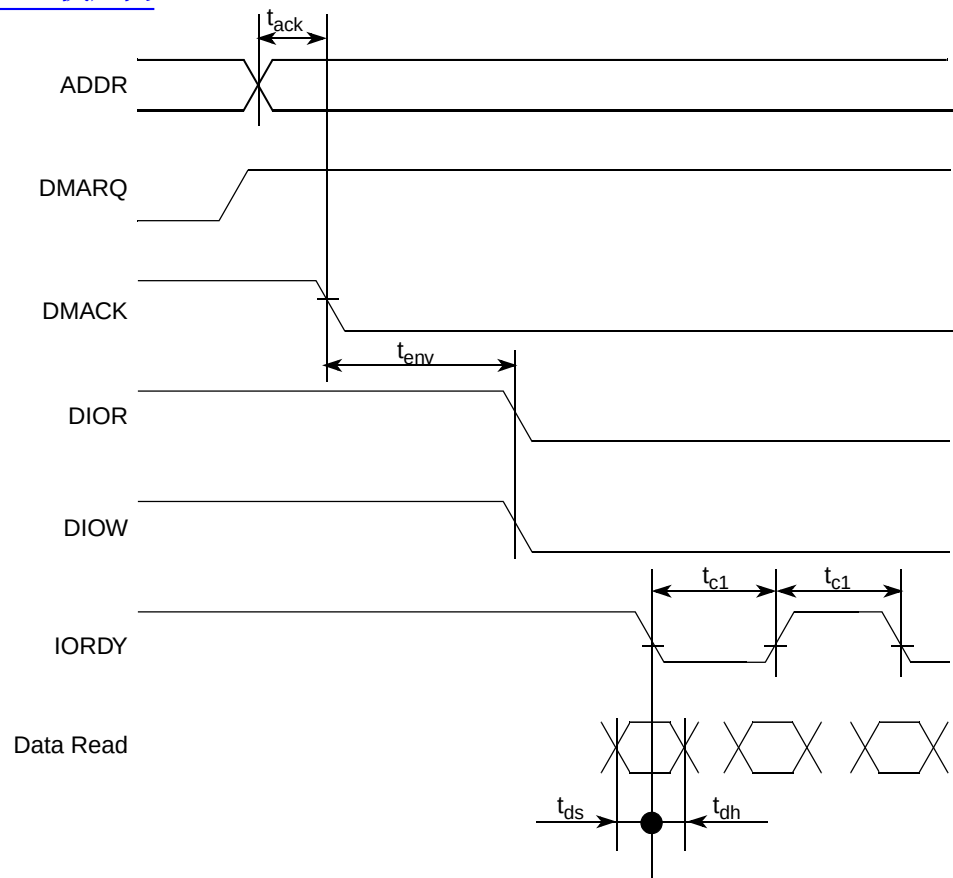

Figure 29. UDMA In Transfer Start Timing Diagram
- Figure 29 gives timing for UDMA in transfer start